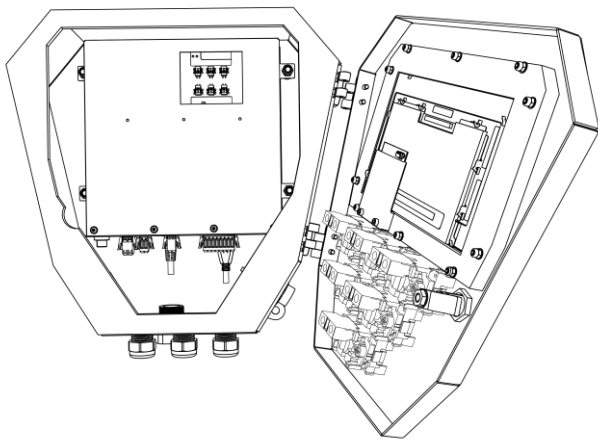
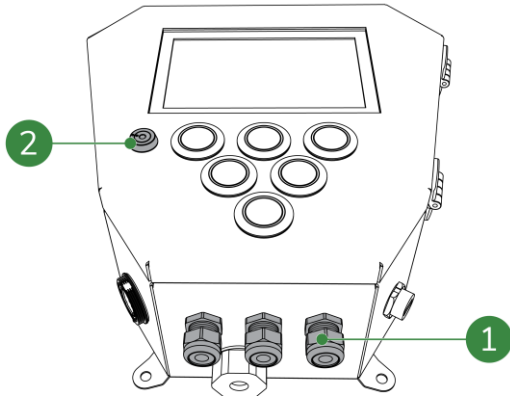
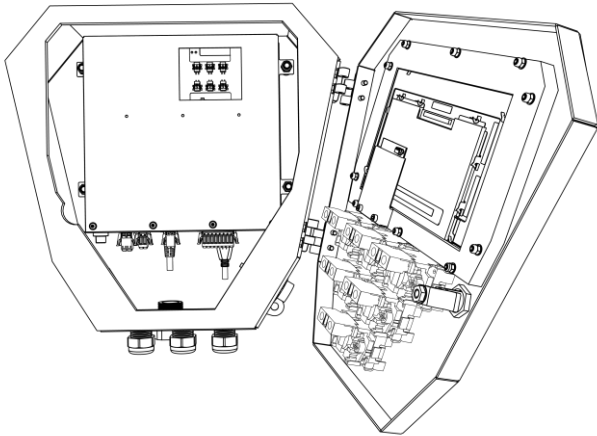
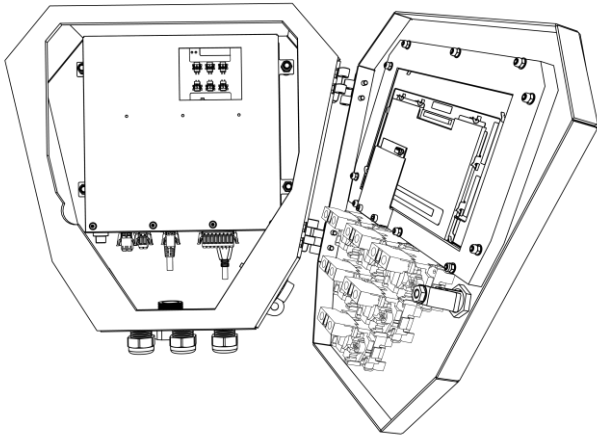

Figure 5-21: Opened door HMI
Figure 5-22: Cable gland for power cable
Figure 5-25: Opened door HMI
Figure 5-27: Opened door HMI
1. Unlock (Figure 5-22, pos. 2) and open the HMI door (Figure 5-21).
2. Loosen a cable gland and guide the power cable through (Figure 5-22, pos. 1).
5. Tighten the cable gland (Figure 5-22, pos. 1) to prevent moisture and dirt entering the HMI.
7. Unlock (Figure 5-22, pos. 2) and open the HMI door (Figure 5-25).
1. Unlock (Figure 5-22, pos. 2) and open the HMI door (Figure 5-27).